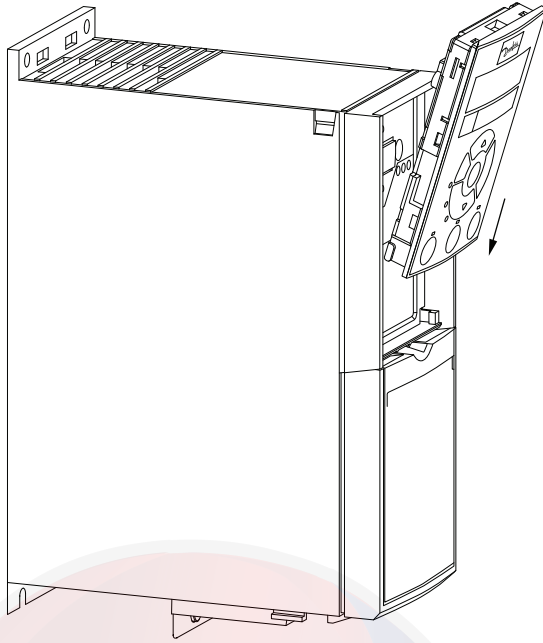

Fig. 57 - Align Bottom of VFD Keypad with Opening in VFD Front Panel
1. Place the bottom of the VFD keypad into the variable frequency drive as shown in Fig. 57.